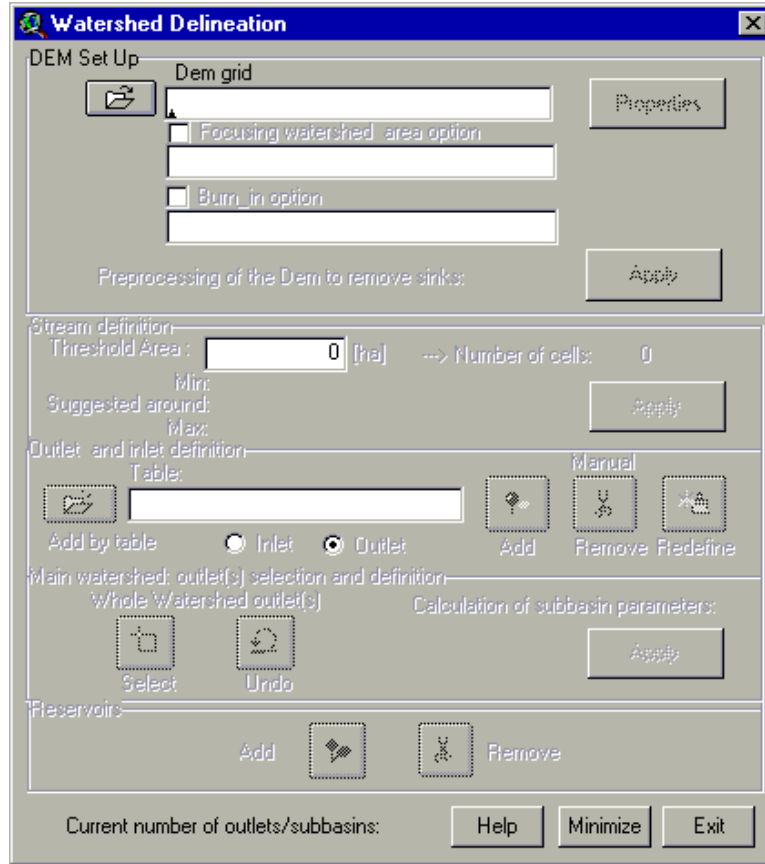

Figure 15.8
12. Once the User Data directory is defined, the interface will display the SWAT Project Window and automatically activate the Watershed Delineation dialog box (Figure 15.8).